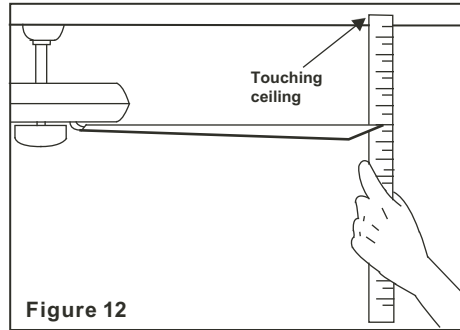

Figure 12
2. Most fan wobbling problems are caused when blade levels are unequal. Check this level by selecting a point on the ceiling above the tip of one of the blades. Measure this distance as shown in Figure 12. Rotate the fan until the next blade is positioned for measurement. Repeat for each blade. The distance deviation should be equal within $1/8$ ".